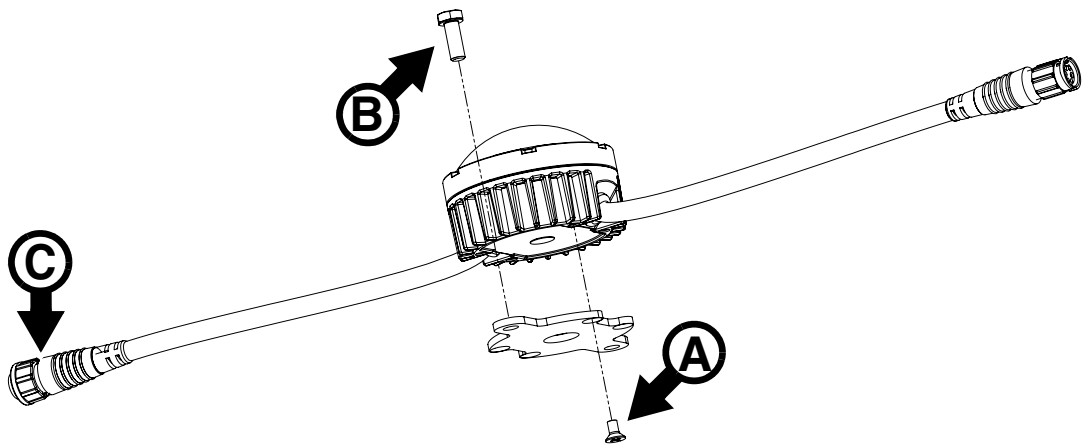

Figure 2: Installing using a Flange Bracket
1. See Figure 2. Fasten the Flange Bracket to the base of the dot using the supplied M4 x 8 mm countersunk Torx screws **A** supplied with the Flange Bracket. Use a torque driver to tighten the screws to a torque of 2.5 Nm.